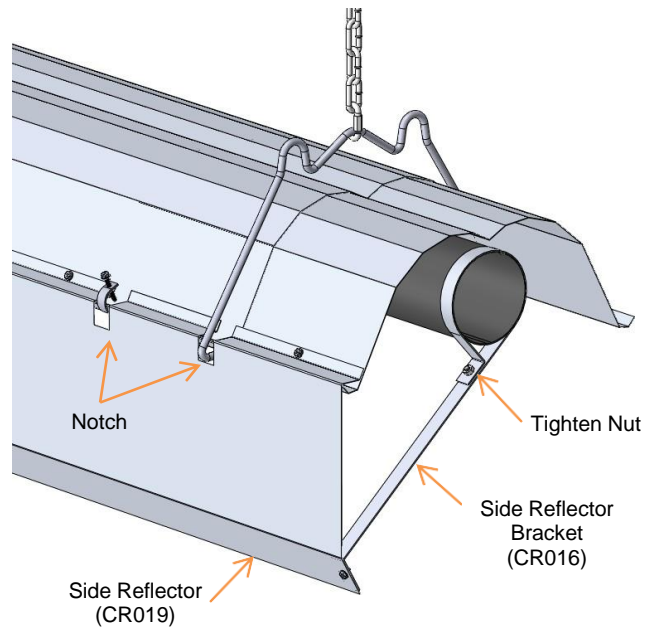

**Figure 18: Mitered Reflector Installation**
- If used, install the Mitered Reflector as shown below (Figure 18).